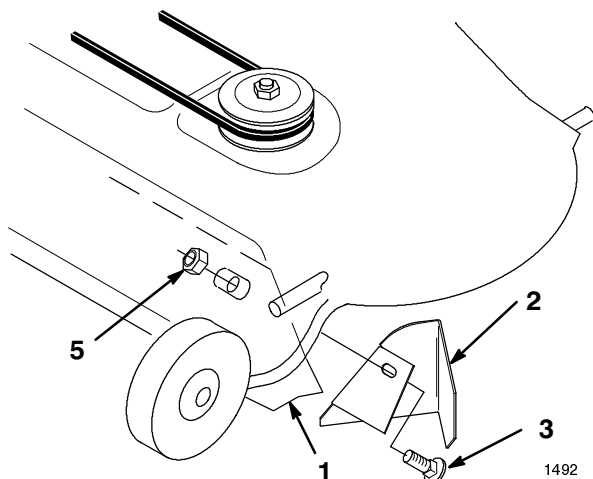

Figure 5
3. On 42" decks, secure with a 3/8 x 1" carriage bolt and 3/8" lock nut (Fig. 5).